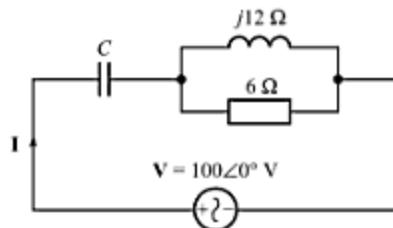

Fig. 10.18
26. The circuit shown in Fig. 10.18 operates at a frequency of 50 Hz. Determine the value of  $C$  such that the input voltage  $V$  and the input current  $I$  are in the same phase.